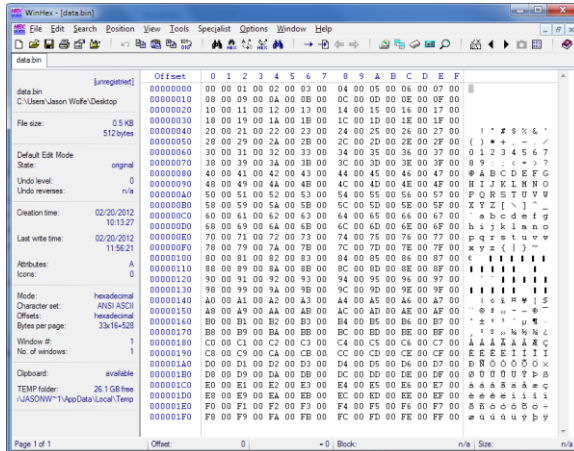

Figure 7 – Hex Editor with Incrementing Count
- d. To verify that the data read correctly, click the “Edit” button in the “Read” section. This will launch a hex editor that will display the contents of the file. Verify that there is an incrementing count as shown in Figure 7. Note that depending on the endianness of your system, the MSB and LSB of the read data may be reversed from that shown in Figure 7.